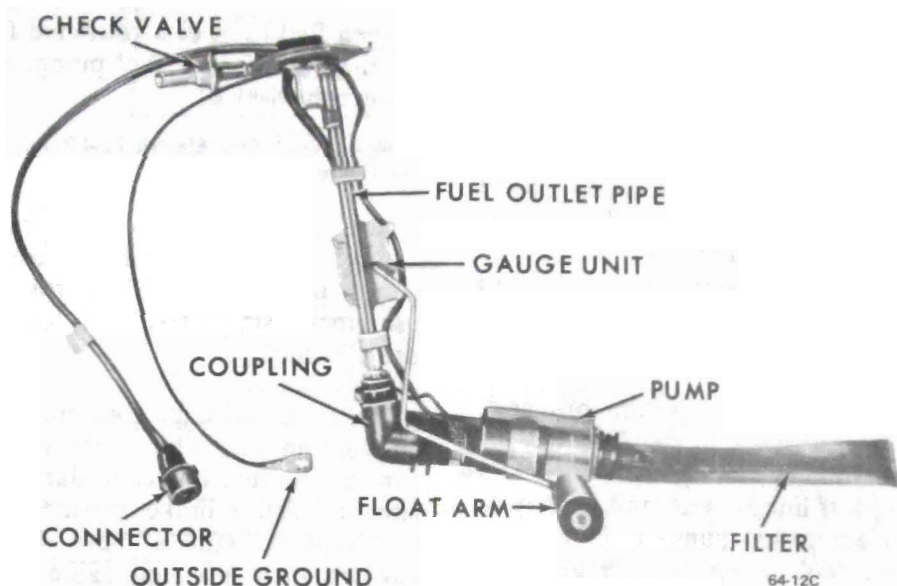

Figure 64-11 Electric Fuel Pump and Fuel Gauge Tank Unit Assembly
4. Unscrew retaining cam ring using Wrench J-21518 and remove fuel pump-tank unit assembly. See Figure 64-11.